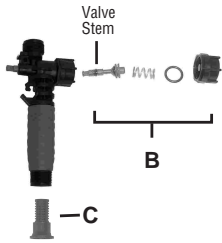

Figure 3
3) Remove the retaining nut (o-ring attached), spring, and valve stem (B) (Figure 3). Replace worn parts. Lubricate the O-rings and reassemble by reversing the steps above. Place the handle groove in the slotted area of the valve stem and make sure the locking clip is positioned in the neutral position (see "Helpful Spraying Information" section). Insert the retaining pin. Push down on the handle a few times to distribute the lubricant evenly. Check filter (C) in end of shut-off valve for debris. Remove filter and flush with water to clean out.